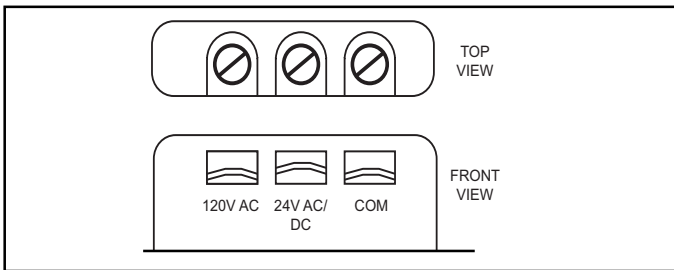

Figure 2. Terminal Block
- Refer to Figure 2 and connect as instructed below:
- Mount the connected assembly onto the surface housing and secure it with (2) #10-32 x 7/8" screws (supplied).